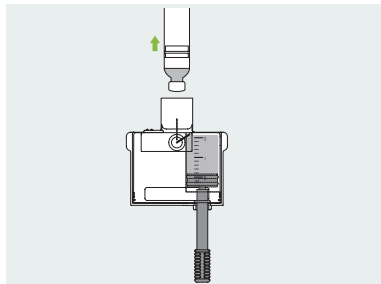

Figure 64
**6** Remove the insulin vial or cartridge from the fill adapter (Figure 64).